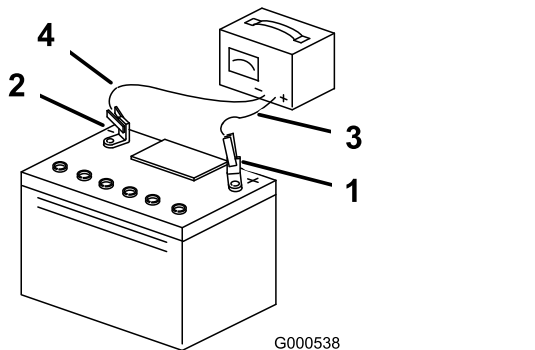

Figure 88
5. When the battery is fully charged, unplug the charger from the electrical outlet, and disconnect the charger leads from the battery posts (Figure 88).